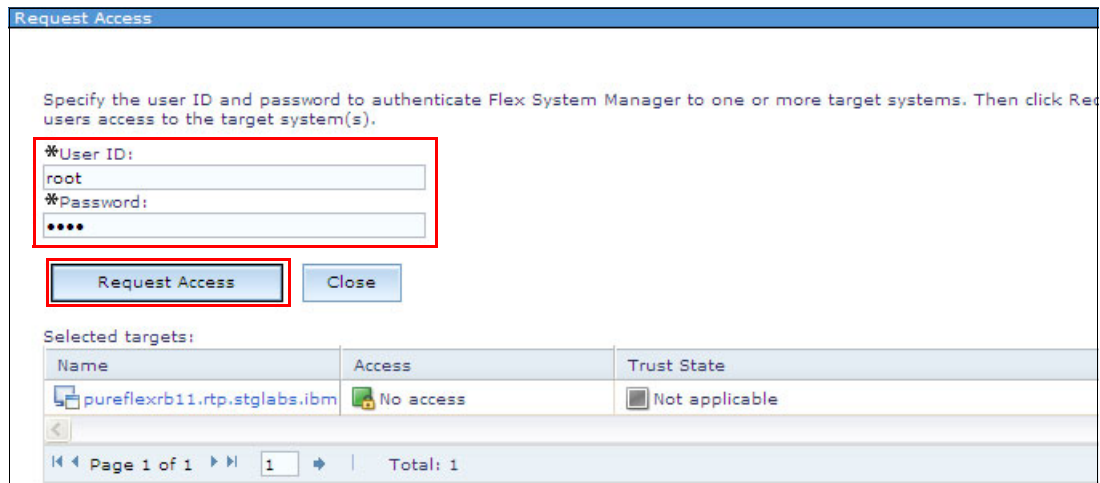

Figure 10-141 Entering the credentials for the virtual server
- Enter the credentials for the virtual server and click **Request Access** as shown in Figure 10-141.